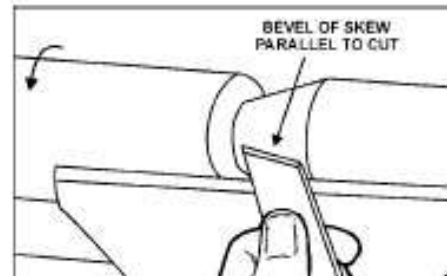

FIG. 16
3. Move the point of skew to the right half of the desired width of your cut, see Figure 16.